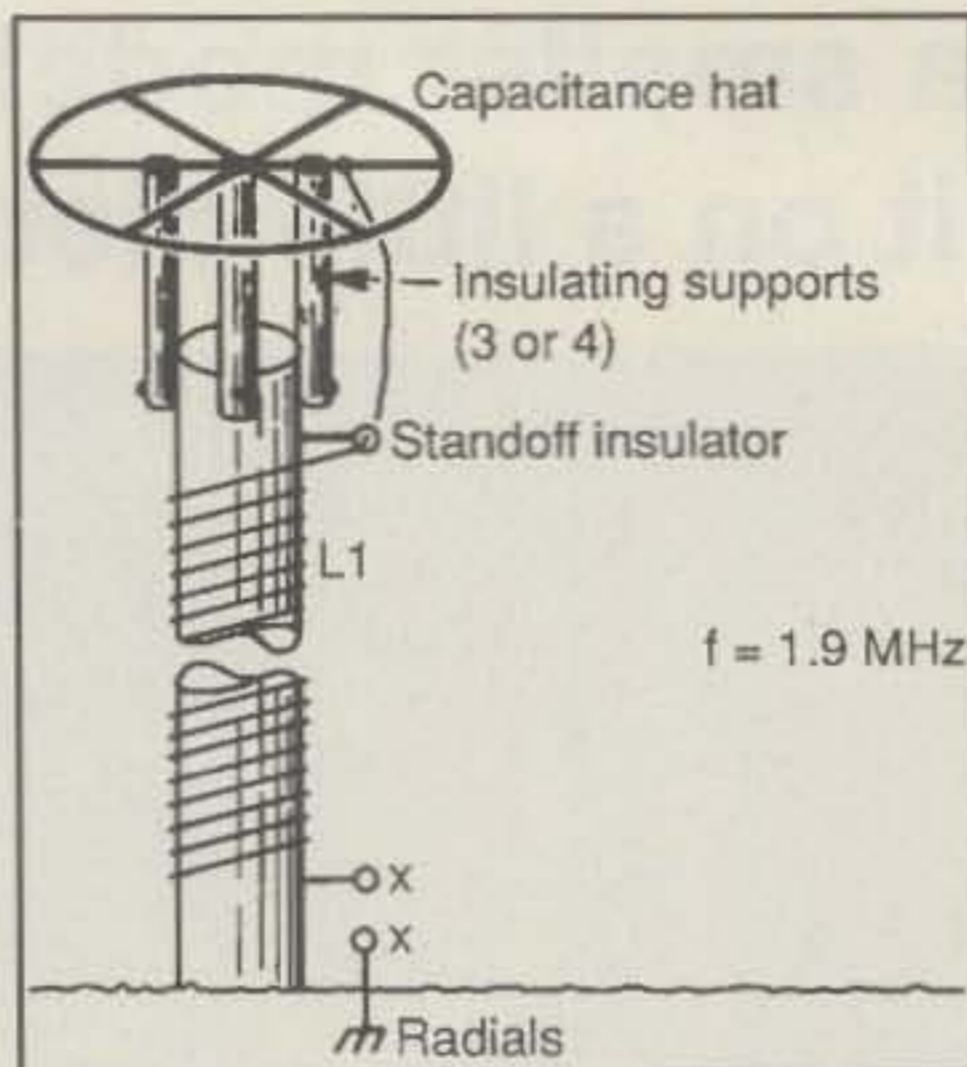

Fig. 3— Example of a short, helically wound 1/4-wave vertical for 1.9 MHz. L1 is wound on 26 feet of 2 3/8 inch OD guyed PVC pipe (see text for details).
Fig. 3 shows how a helically wound vertical is configured. To achieve 1/4-wave resonance it is necessary to use approximately one-half wavelength of wire, spiral wound on a low-loss form. The fig. 3 ground-mounted radiator can be wound on 2 3/8 inch PVC tubing. Guying is required. Best performance will be had when using 16 or more buried or on-ground radials that are 30 feet or greater in length.
The L network in fig. 6A is suitable for matching 50 ohm coax to this antenna and to the low-Z radiators illustrated in figs. 3, 4, and 5. Fig. 6B shows how the L network can be reversed for use with end-fed antennas that present impedances greater than 50 ohms.
Fig. 6—Matching networks for the fig. 3, 4, and 5 antennas. Circuit A is for matching 50 ohms to a lower impedance. The circuit at B is for matching 50 ohms to a higher impedance. The series C and L combination at C is suitable for matching 50 ohms to quarter-wave antennas that are resonant higher than the desired operating frequency (see text).
As with the antennas in figs. 3 and 4, this radiator requires a ground screen. Each of the radials (or a counterpoise wire) should be 130 feet in length. Try to deploy at least 16 radials (the more the better). If you lack the real estate for $\frac{1}{4}$ -wave radials, use as many shorter ones as you can fit into the available space. I have employed mixed-length radial systems with some of the wires as short as 25 feet, while others were up to 130 feet long. Use whatever wire length you can manage for your property size, and then test the system for performance.
If antenna space is lacking for a full-size inverted L, you can erect a shorter length of wire and configure it as an inverted L, keeping the vertical portion as long as practicable. Reasonable performance may be expected if you provide radials or a counterpoise wire to work the antenna against. The wire must be resonated for $\frac{1}{4}$ -wave operation by adding a center loading coil (as in fig. 2). As an alternative, the matching network in fig. 6C will enable you to obtain an SWR of 1 without a loading coil. In fact, the series coil and capacitor arrangement in fig. 6C may be used with the antennas in figs. 3 and 4 if you resonate them higher than the desired operating frequency. If the resonant frequency is lower than desired, use only the series variable capacitor to tune out the unwanted inductive reactance (XL).